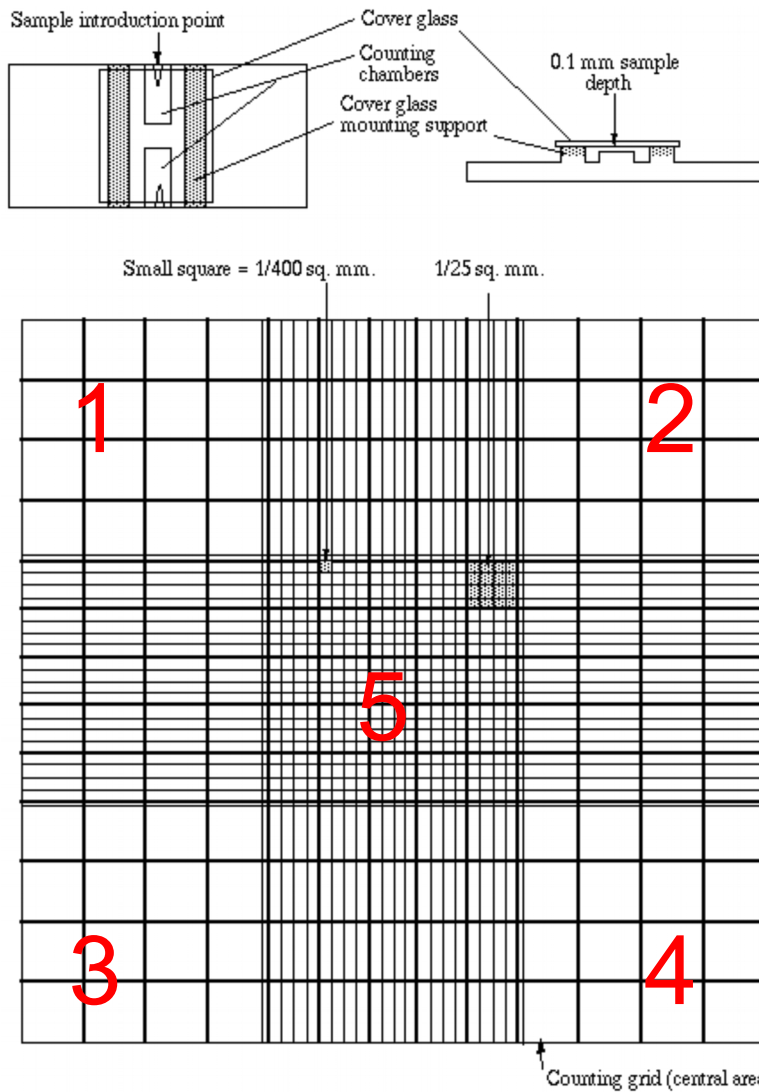

Figure 1. Schematic over Neubauer counting chamber.
2. Put small drops of the dilution on the counting chamber mounting support and mount the cover slip (make sure there are visible liquid-ring patterns) (figure 1).